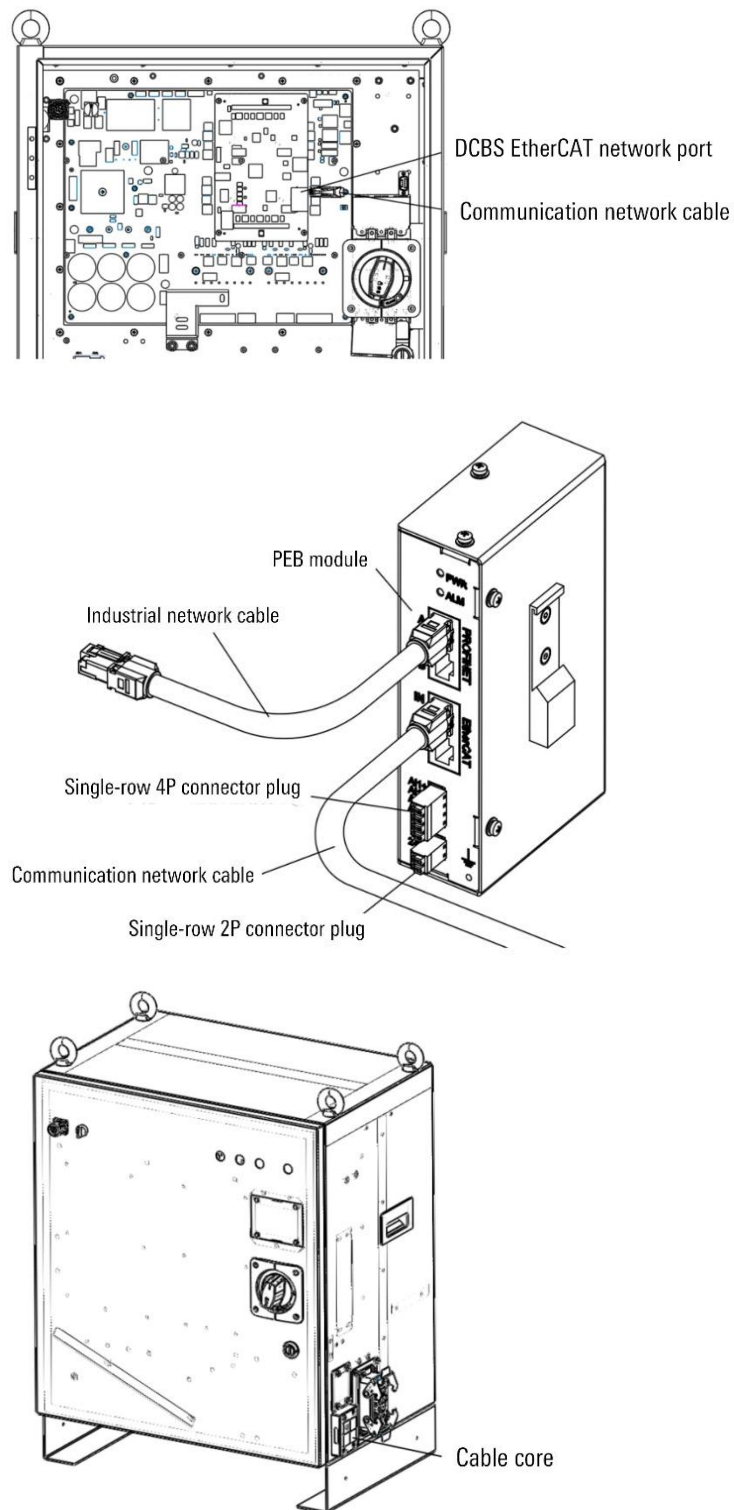

Figure 15-8 PEB module wiring
Step3. According to actual needs, use a communication network cable to connect the Ethercat interface on the DCBS board of the control cabinet and the EtherCAT-IN interface of the PEB module; use an industrial network cable to connect the Profinet-A interface of the PEB module and the PLC device. The industrial network cable passes through the cable core on the right side of the control cabinet. Pass out the cabinet, refer to Figure 15-8.